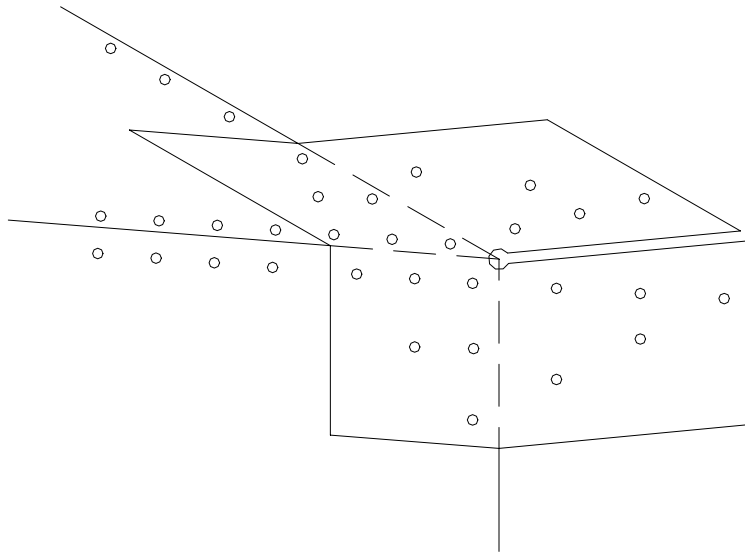

Figure 9.14.3
- 4) In the rear section of the gusset drill three holes in the top and three in the side. Figure 9.14.3.